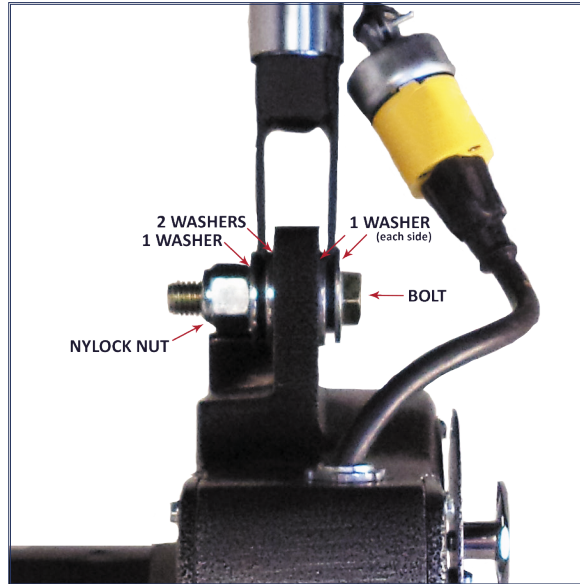

Fig 1.
2) If not already off, remove stem and hardware from dryer. Install yoke placing spacers as illustrated in Fig 1. on the back of this manual. Tighten bolt.